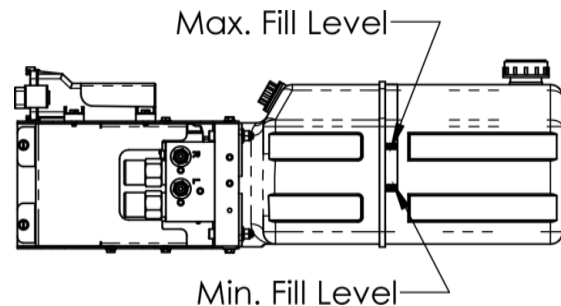

Figure 48. Final fill fluid level.
7. Add fluid to the reservoir until the fluid level is within the band shown in Figure 48.